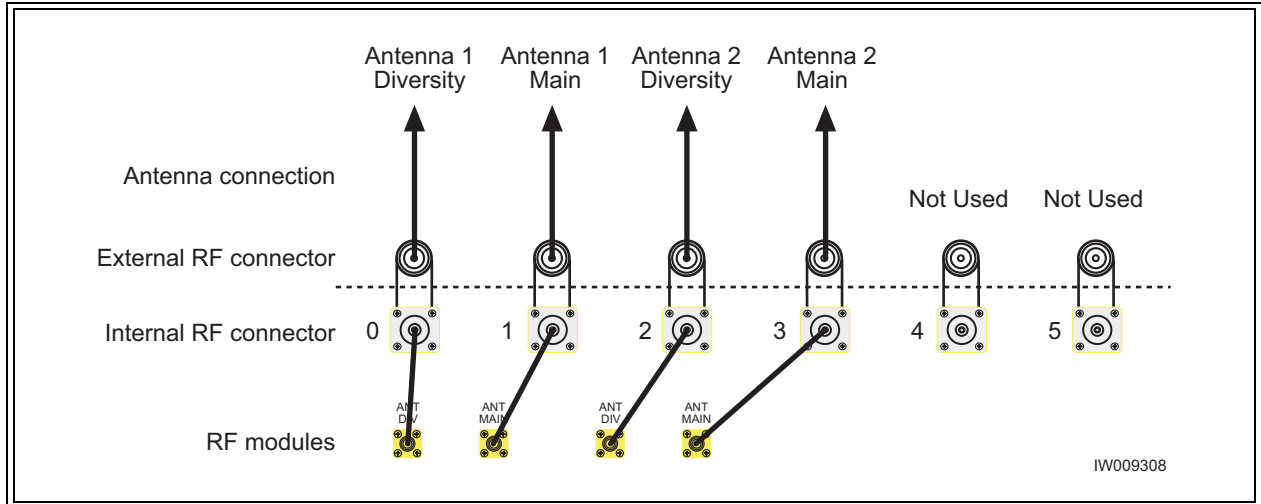

Figure 2-21 Antenna Cabling for S11 Configuration
- Connect your antennas as shown in Figure 2-21.